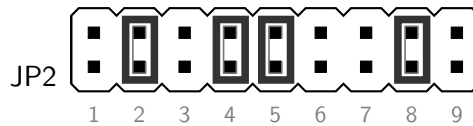

Figure 1.2: Clock configuration example
19.2kHz, shunt pins 2, 4, 5, and 8 as shown in figure 1.2. **Note that only the combinations shown in this table are valid — other settings may result in unpredictable behaviour.**